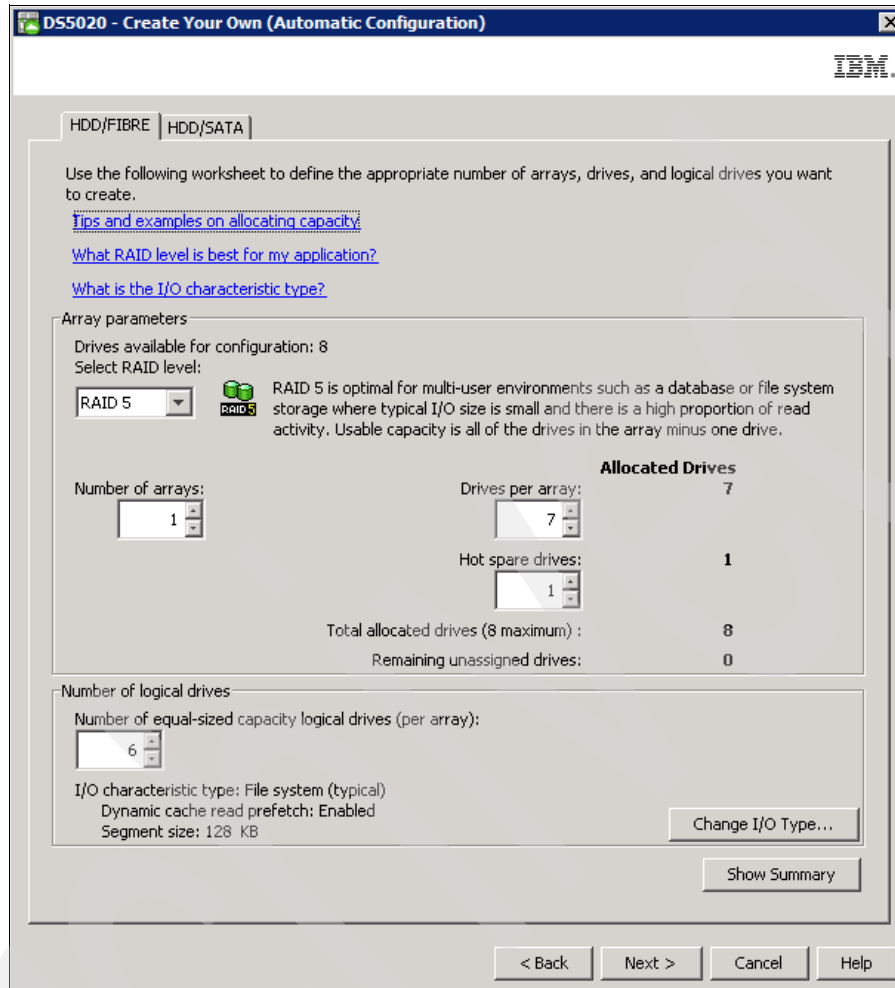

Figure 4-45 Customized automatic configuration
- Create your own configuration: This allows you to customize the configuration by selecting the additional parameters shown in Figure 4-45.